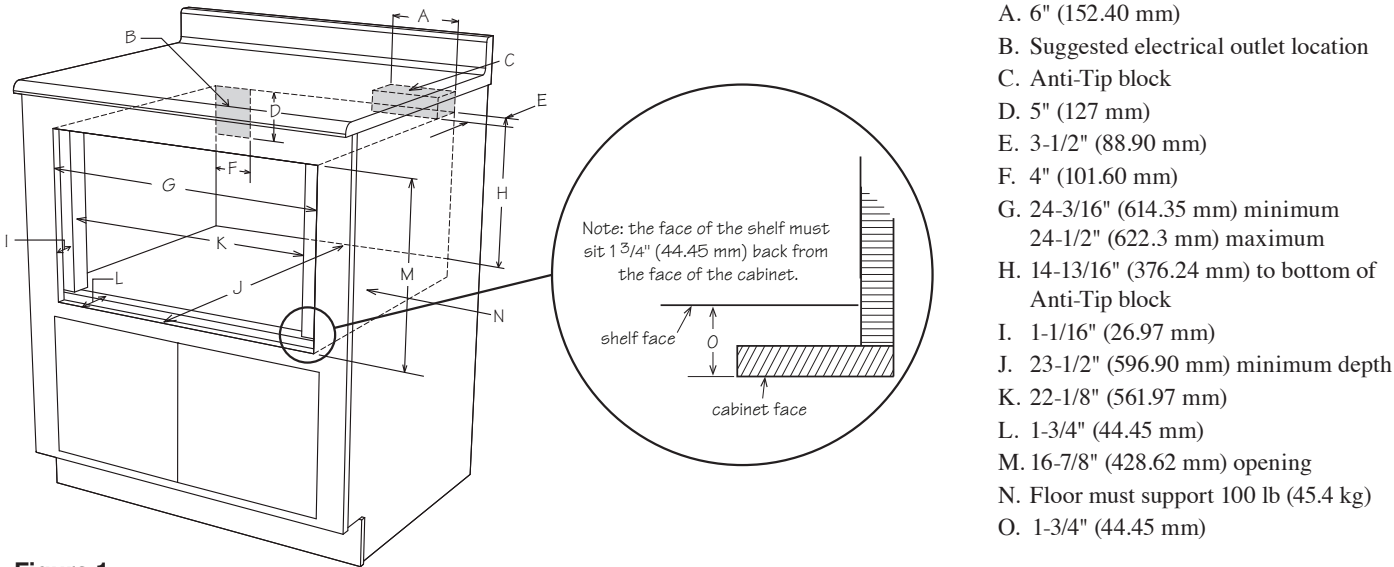

Figure 1
1. Prepare cabinet opening as shown in Figures 1, 2A, 2B, 2C.